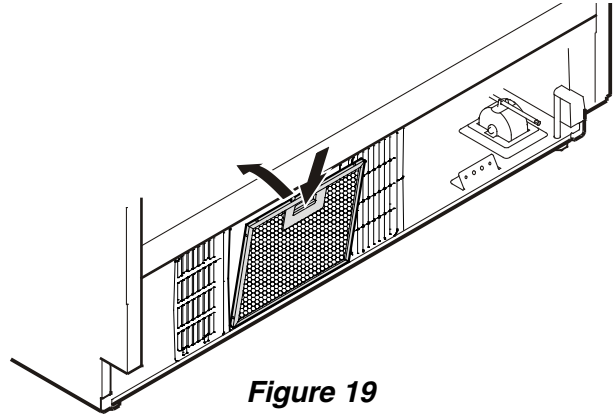

Figure 19
Mounting the Ventilation Grille - Figure 19, 20
2. Remove the blue protection film from the dust filter provided and insert the filter into its opening in the toe kick area as shown in Figure 19. Attach the filter at the bottom, press down the button and click into place.